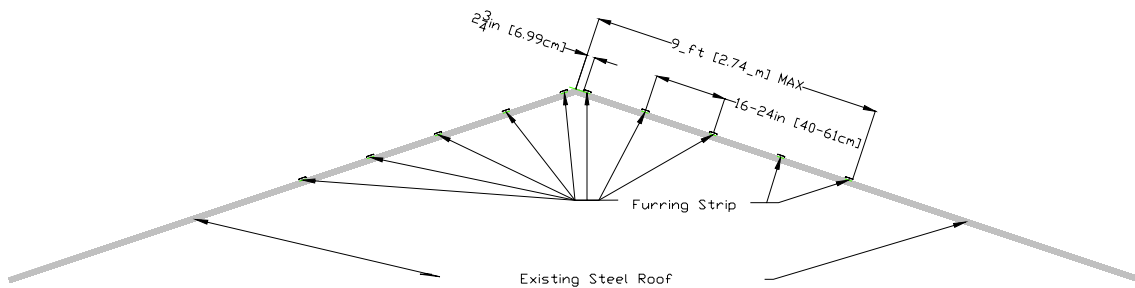

Figure 4.2; Furring Strip Diagram
- A. Install the Top Furring Strips at the peak of the roof. The Furring Strips need to be 2-3/4_inches (6.985_cm) from the peak, see Figure 4.1 on this page & Figure 4.2 on page 4-3.